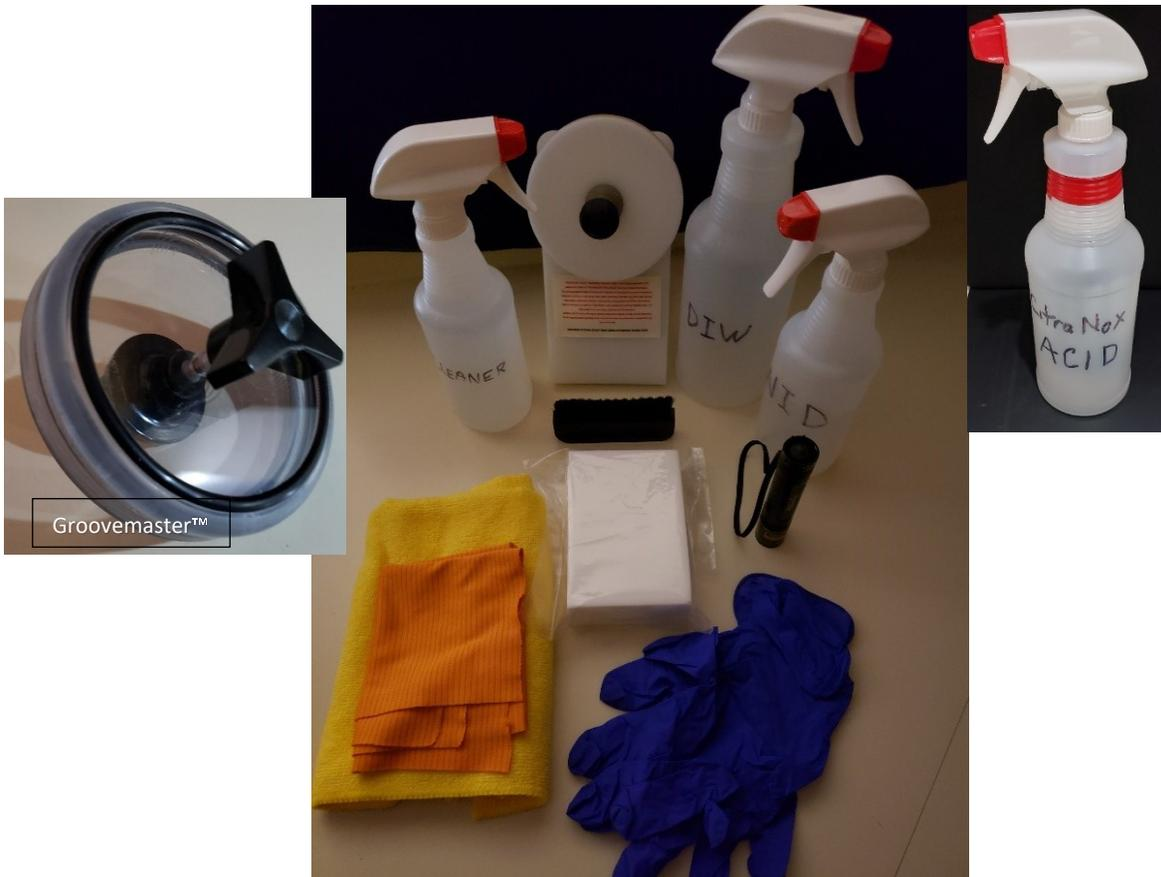

Figure 12 - Step 1: Assemble Cleaning Process Solutions and Materials
V.Step.1 Assemble all equipment, material and solutions in a location that has access to a relatively large sink such as a residential kitchen. **Figure 12** shows the Groovemaster™ and VinylStack™ record label protectors (*items not shown optional Nalgene wash bottle and dish rack*). If required, prepare cleaning solutions as specified **CHAPTER III. CLEANING SOLUTION PREPARATION:** Clean (wipe down) the local area to minimize cross contamination and obtain best cleaning results.